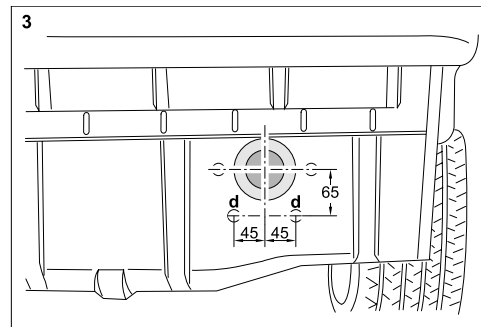

Fig. 3 : Holes in right rear panel and sealing ring
- 6.) Mark necessary holes in the rear panel at " d " in the area beneath the right - hand impact damper opening and drill with 14 mm ø drill (see Fig. 3).
- 7.) Clean rear panel in the area about the right - hand impact damper opening and adhere foam sealing ring about opening; see Fig. 3.
- 8.) Insert stirrups (3) into frame side member from rear and loosely screw together from below with left (4) and right (5) reinforcement bracket together with collar nuts M 10.
- 9.) Insert left (2) and right (6) longitudinal struts also in frame side member and loosely screw to the body from above with hexagon bolts M 10 x 30 and washers 25 x 10,5 x 3.
- 10.) Place towing device (1) onto rear panel from rear and loosely screw to vehicle from the inside with hexagon bolts M 10 x 30 and washers 25 x 10,5 x 3.
- 11.) Align towing device (1) and tighten the screw connections in following sequence :
903 095 650 001	VPE. Retaining parts, including Fig. 3